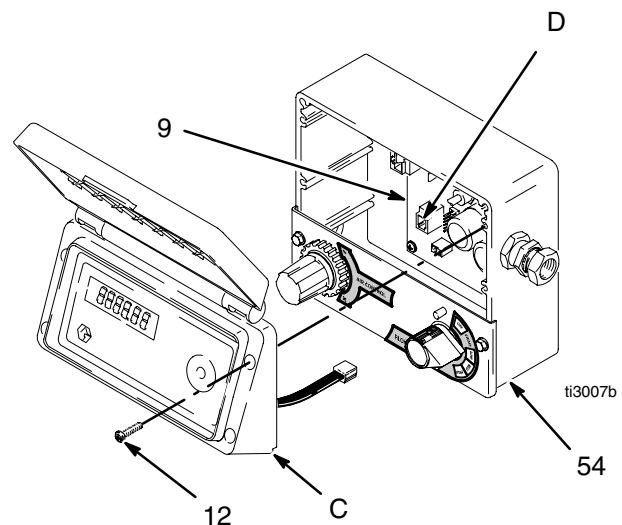

Fig. 6
3. Loosen two quick disconnect screws (27).
4. Pry retaining spring (37) up on connecting rod (128). Push pin (38) out with a screwdriver.
5. Fig. 6. Remove cover (C) to control housing (54) by removing four screws (12). Detach pressure transducer cord (63, Fig. 4) from control board (9) at port (D). Remove pressure transducer cord from control box.
6. Fig. 6. Route the pressure transducer cord (63, Fig. 4) to the control box and attach to port (D) on control board (9). Assemble cover (C) to control housing (54) using four screws (12).